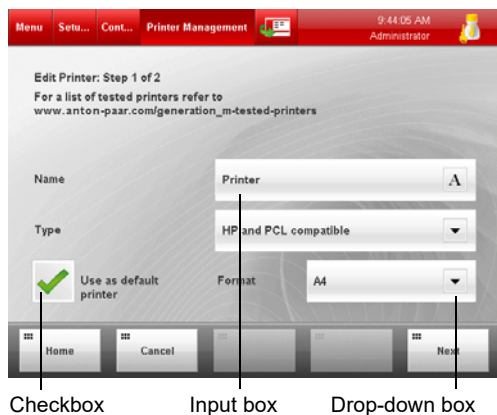

Fig. 2: Example of checkboxes, input boxes and drop-down boxes
Tap on the checkbox to activate or deactivate it, see fig. 2.
- Tap the "A" symbol within the input box or list field, see fig. 2.